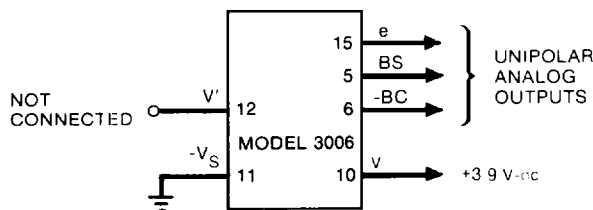
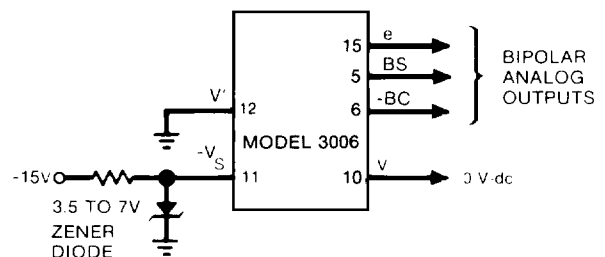

FIGURE 3 CONNECTIONS FOR UNIPOLAR ANALOG OUTPUTS
FIGURE 4 CONNECTIONS FOR BIPOLAR ANALOG OUTPUTS
- V' (pin 12) is an unbuffered dc voltage. For unipolar output this pin is left unconnected. For bipolar analog outputs pin 12 is connected to ground (figure 4), and a negative power supply of -3.5 V-dc to -7 V-dc is applied to -Vs (pin 11)
The error voltage "e" (pin 15) as well as BS and -BC are referenced to the bias voltage V. Depending upon the application and availability of a negative power supply, the Model 3006 may be connected for unipolar or bipolar analog outputs. Figure 3 shows connections for unipolar output. Figure 4 shows a convenient way to obtain bipolar analog outputs from 3006 without using external operational amplifier.